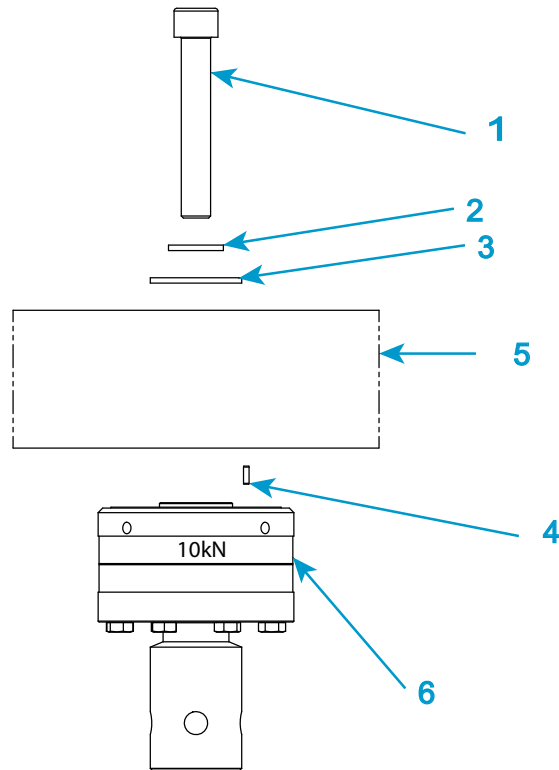

Figure 18. Install a 2530-10kN load cell
Legend for Figure 18
1. Refer to Figure 18 on page 82 and its associated legend.